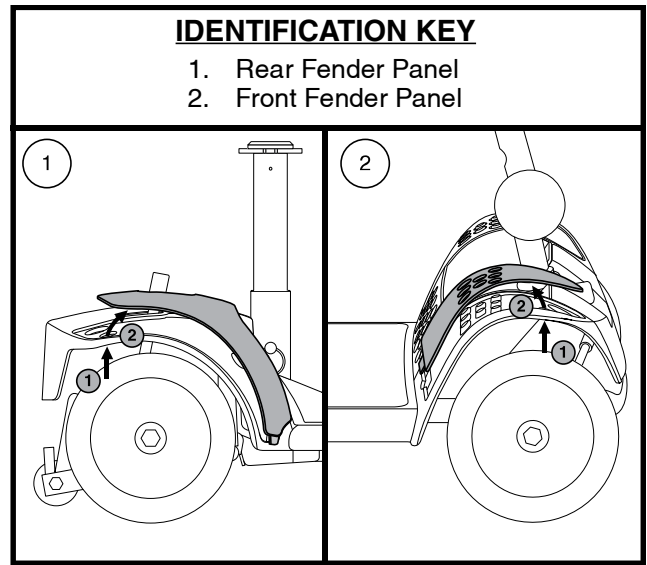

Figure 16. Fender Panels
2. Push through the hole to separate the piece from the Travel Scooter. See **figure 16**.
**NOTE:** When installing the front and rear fender panels, make sure the tab at the bottom of each panel is inserted into the tab opening before securing the panel. See **figure 16**.